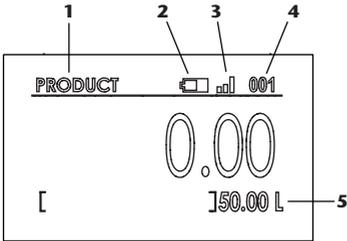

Fig. 8
When a transaction is launched in the management system then the screen shows the transaction mode (figure 8) in which it can be seen the preselected amount (5).